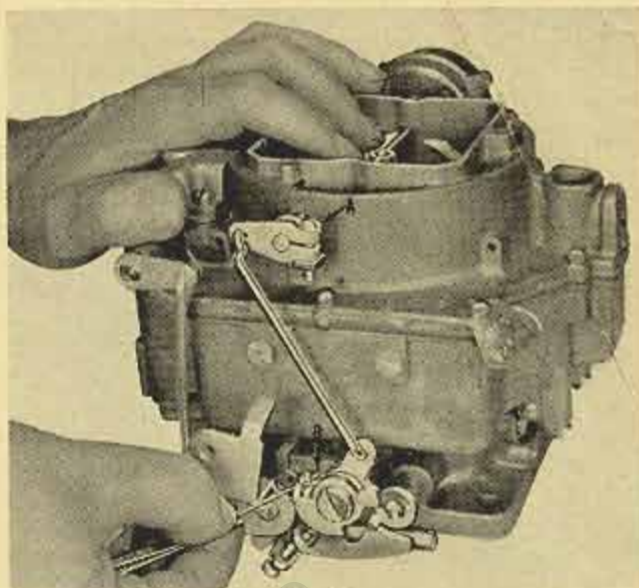

Fig. 13
A. Loosen choke lever clamp screw on choke shaft, "A," Fig. 13. Insert .020" wire gauge Tool No. T109-29 between lip of fast idle cam and boss of
flange casting, "B," Fig. 13. Hold choke valve tightly closed and take slack out of linkage by pressing choke lever toward closed position, hold in place and tighten clamp screw, "A."